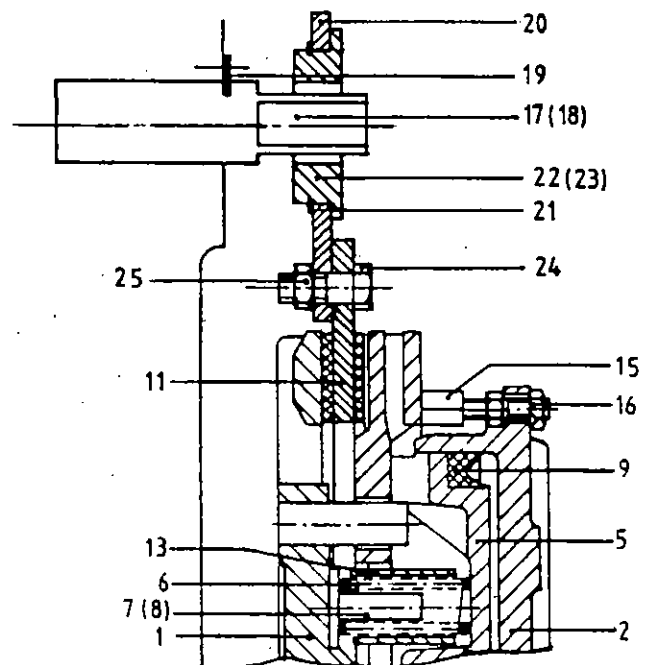

Fig. 2: Two point plate suspension
2.2 Two point plate suspension (Fig. 2)